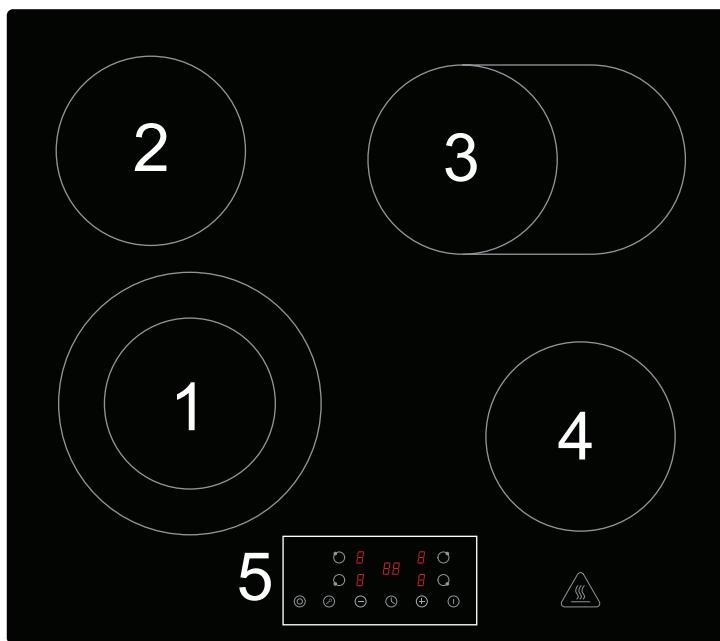
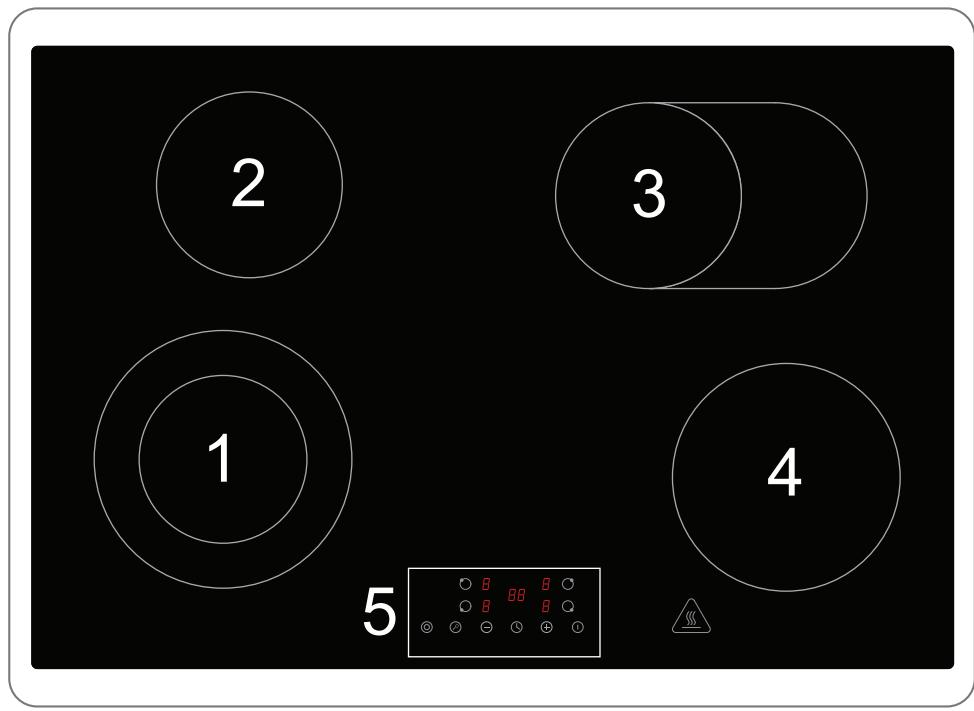

Fig. 4.6
Fig. 4.7
**NOTE:** The zones available for the dual cooking area are 1 and 3 (see Fig. 4.6 and Fig. 4.7 ).
**NOTE:** The zones available for the dual cooking area are 1 and 3 (see Fig. 4.6 and Fig. 4.7).